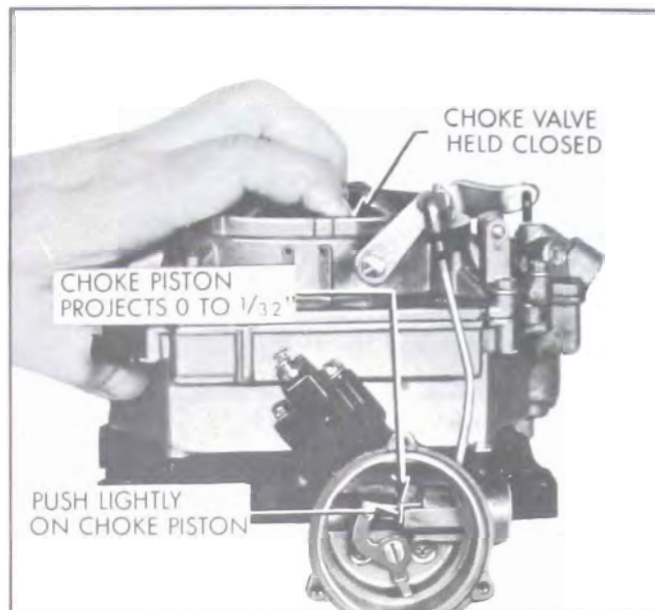

Figure 3-61—Checking Choke Piston Adjustment
12. Choke Piston Adjustment. With choke valve held tightly closed, and with choke piston pushed lightly toward its cylinder (to take up any linkage slack), check to see that choke piston is projecting from cylinder between 0 and  $1/32''$ . See Figure 3-61. If adjustment is